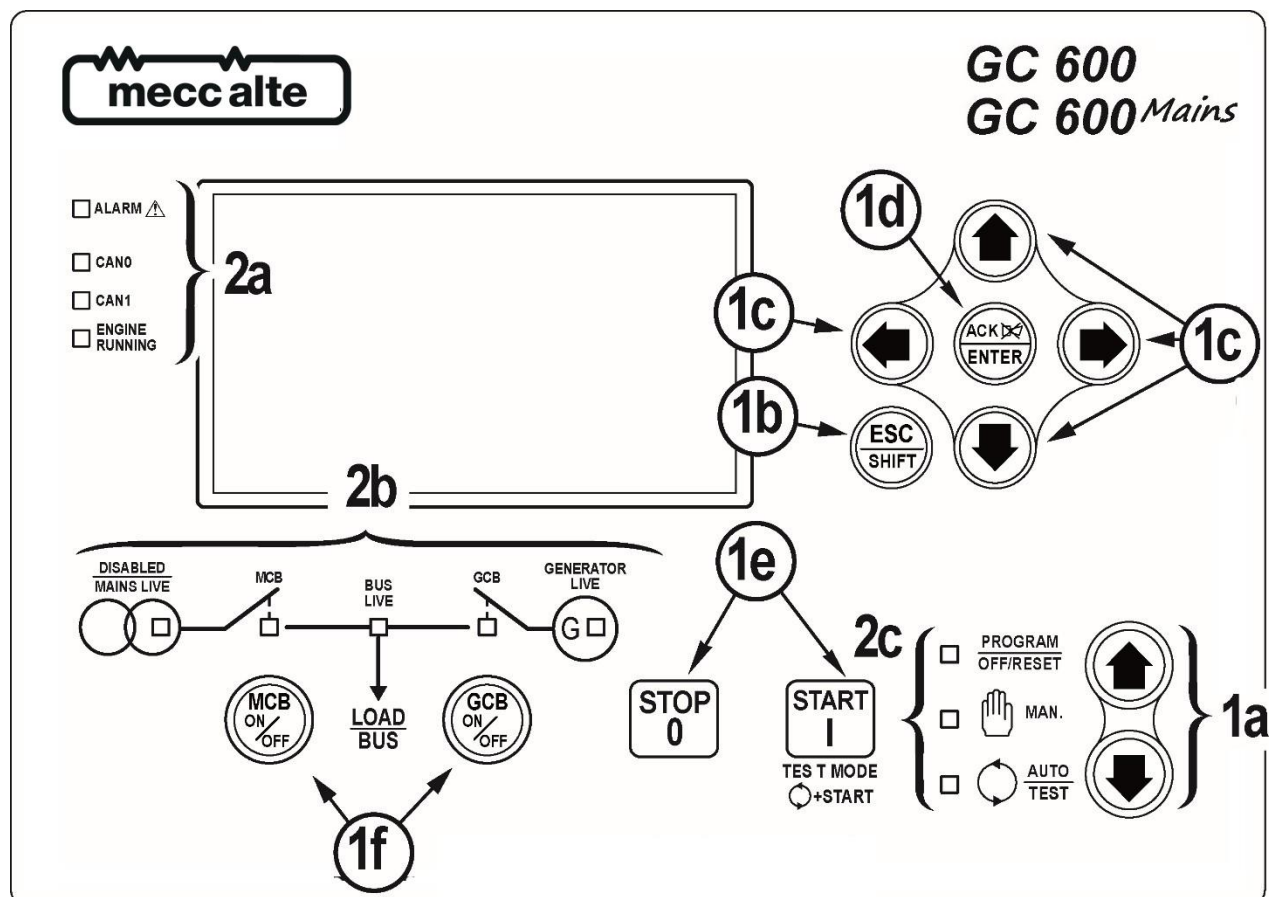

Fig. 1 - Front Panel
6.2 Buttons (ref. to fig. 1, and 2)
6.3 Indicators (ref. to fig. 1 and 2)